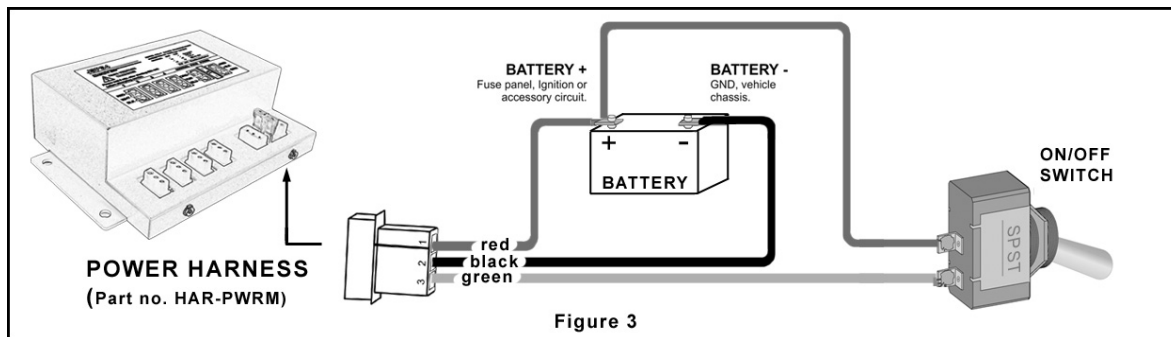

Figure 3
1. Plug the Power Harness (part no. HAR-PWRM) to the Power Supply; refer to Fig.3.